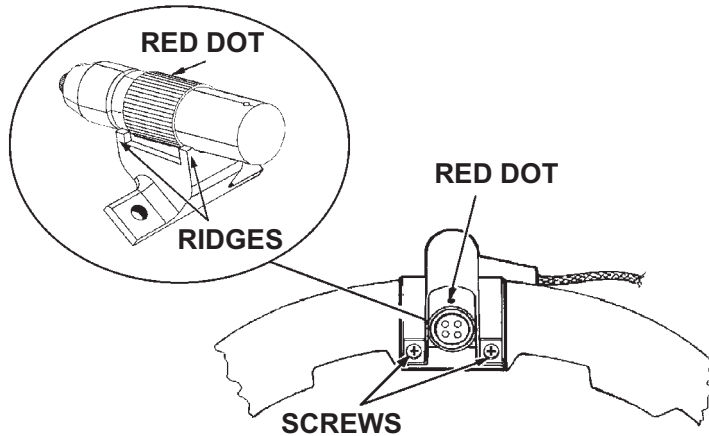

Figure 2-9. Reinstalling Power Cord Cover
11. Referring to Figure 2-9, reattach the power cord cover and the power cord block to the visor housing with the screws, washers, and posts removed in Step 8. Ensure that the red dot on the connector points up and that the knurls on the connector are seated between the ridges on the block.